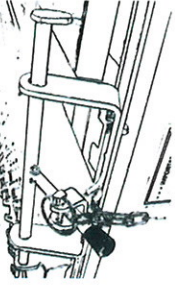

Fig. 11
1. Lift the spring ring and withdraw the linchpin. Lift the handle to release the skid retainer clamp (fig 11).
2. When both skids are in place, slide the clamp handle to the central position, locate in the receiver bracket and replace the linchpin as shown in fig 11.